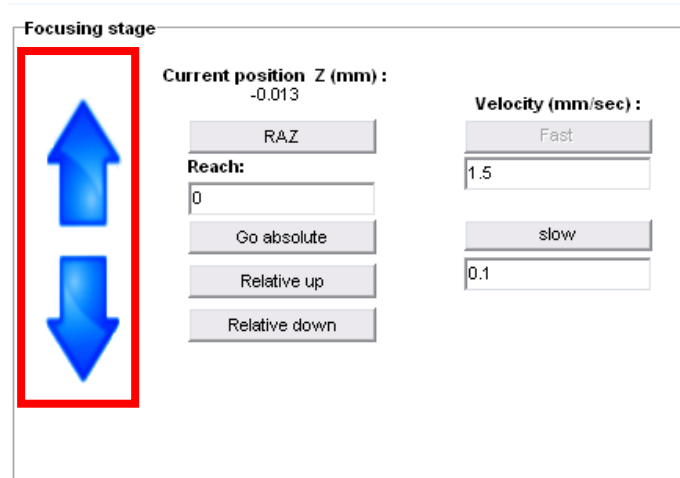
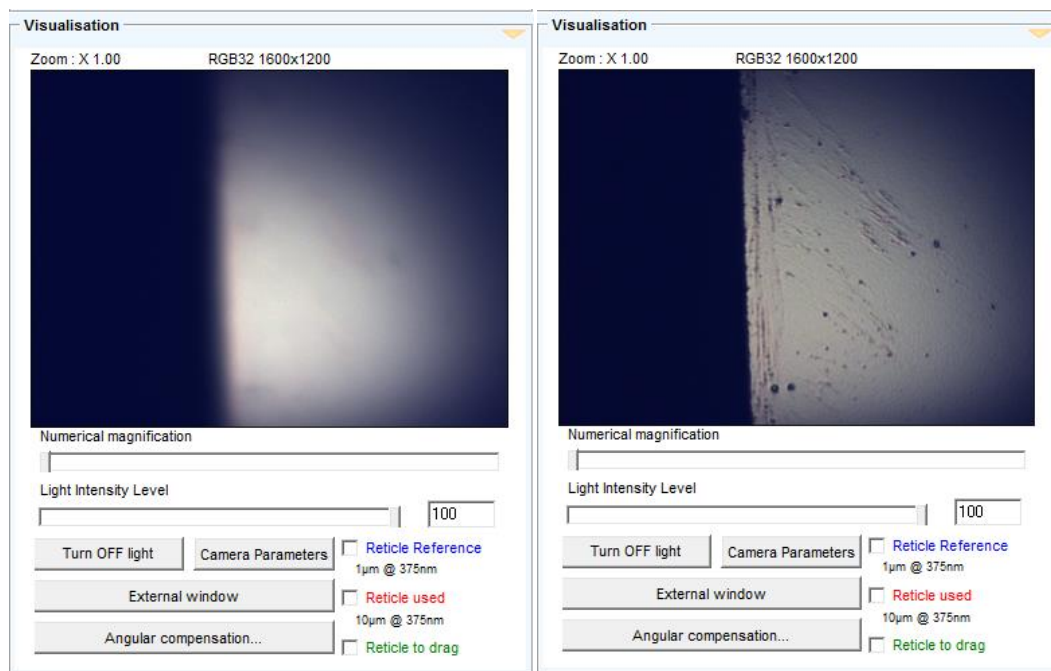

Figure 13: Focal command button
Figure 14: Blurred image (left) – clear image (right)
- Move the motorised focus up and down, using the arrows into **“Focusing Stage”** panel, until to obtain a clear image of the substrate see Figure 13 & Figure 14.